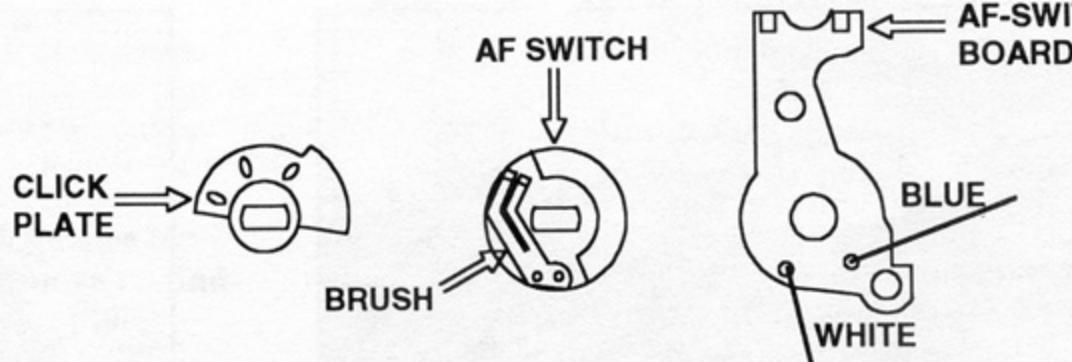

FIG. 44 AF-SWITCH PARTS, POSITIONS AT MANUAL-FOCUS SETTING
On reassembly, fit the parts over the flatted shaft of the AF-mode lever as shown in Fig. 44.
9. Focus-mode selector click plate. Revised to make the AF-mode lever easier to set. If the customer complains that it's too hard to set the AF-mode lever (or if you can't turn the AF-mode lever), change the focus-mode selector click plate, Fig. 44, to the new style.